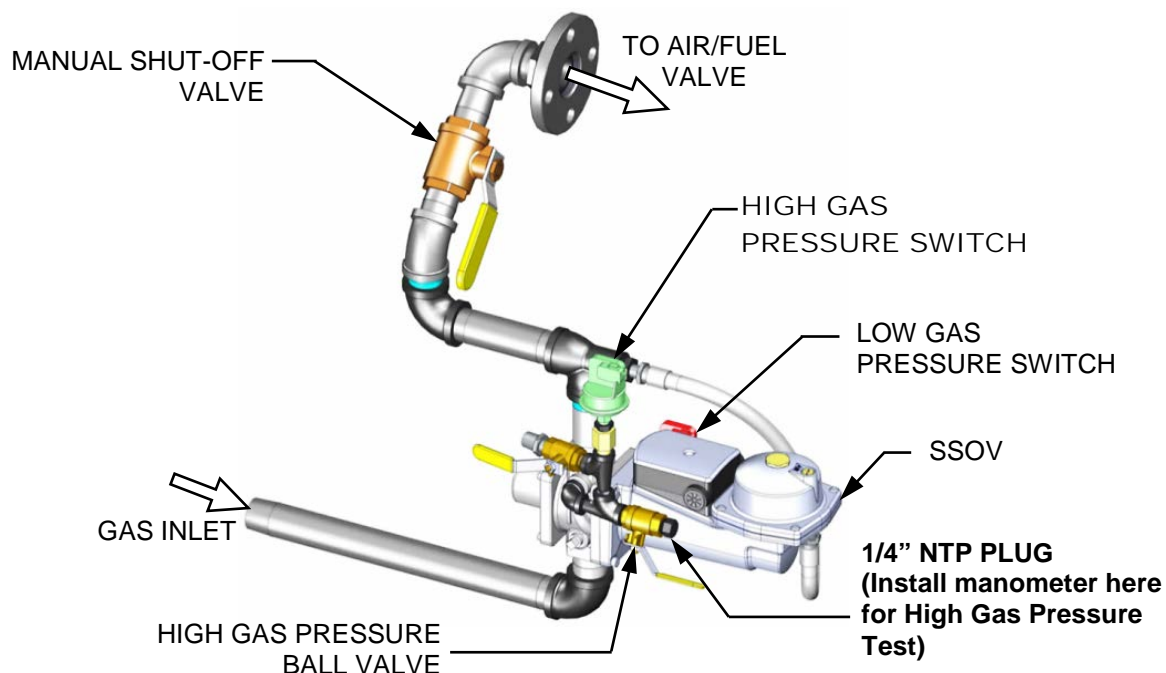

Figure 5-3a: BMK 750/1000 HIGH Gas Pressure Test Components
To simulate a high gas pressure fault, refer to Figure 5-3a through 5-3c and perform the following steps:
2. Remove the 1/4" NPT plug from the High Gas pressure leak detection ball valve shown in Figures 5-3a through 5-3c.
3. Close the manual gas shutoff valve located between the Safety Shut-Off Valve (SSOV) and the Air/Fuel Valve, as shown on Figure 5-3a, 5-3b and 5-3c, above.
9. Once flame is proven, close the manual gas valve located between the SSOV and the Air/Fuel Valve (see Figure 5-3a, 5-3b or 5-3c, above).